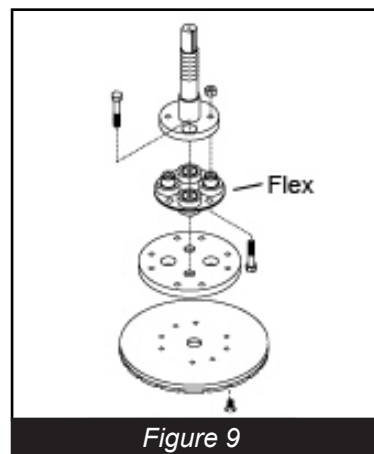

Figure 9
- Flex Head** can be used preparing a smooth, flat floor to receive a new coating, removing coatings, grind rough concrete surfaces. Can be used with a vacuum or water for dust control but not the same time. (*Figure 9*)